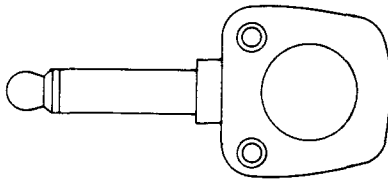

Fig. 20—444A-Type Plug
2.18 444A-Type: The 444A-type (Fig. 20) consist of 2-conductor plugs and have shells of insulating materials. The shells are available in colors as listed in Table B. The 444A-type plugs are designed for M2ER-type cords and mate with the 517A- and similar-type jacks. These plugs are used with the AE-Type Telephone Base in the 3A Communications System.